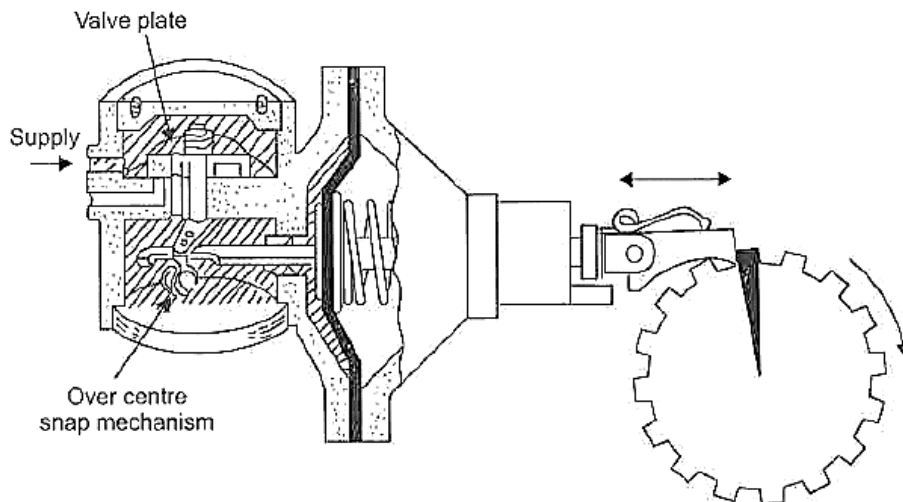

Fig.5.16 Diaphragm air motor
- ▶ The schematic diagram of a diaphragm air motor is shown in Fig.5.16. Diaphragm air motors are used when high torque at very low speeds is required. This motor operates directly on the valve shaft via a ratchet and foot wheel mechanism. The motor contains a diaphragm to produce the necessary thrust, and a snap-over valve mechanism operated by the motor shaft alternately admits air to the power chamber and then vents it. This produces continuous oscillations of the motor shaft and hence rotations of the valve spindle.